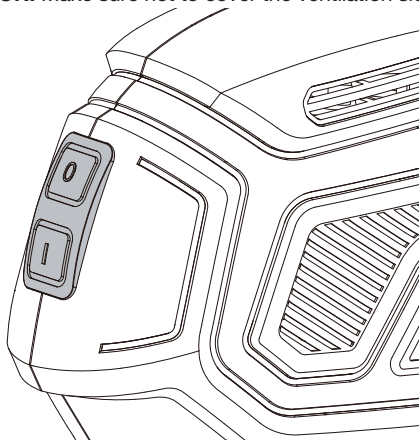

Figure 8
1. OPERATING THE ON/OFF SWITCH (SEE FIG. 8)